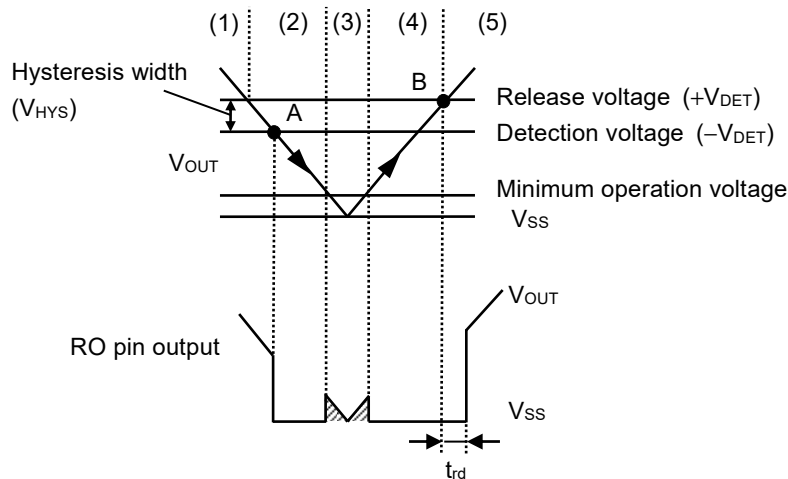

Figure 36 Timing Chart of Detector Block
- (1) When the output voltage (V_{OUT}) of the regulator is release voltage ($+V_{DET}$) of the detector or higher, the Nch transistor (N1 and N2) are turned off and "H" is output to the RO pin. Since the Pch transistor (P1) is turned on, the input voltage to the comparator (C1) is $\frac{R_B \cdot V_{OUT}}{R_A + R_B}$.
- (2) Even if V_{OUT} decreases to $+V_{DET}$ or lower, "H" is output to the RO pin when V_{OUT} is the detection voltage ($-V_{DET}$) or higher. When V_{OUT} decreases to $-V_{DET}$ (point A in **Figure 36**) or lower, N1 which is controlled by C1 is turned on, and C_{DLY} is discharged. At the same time, N2, which is controlled by the delay circuit, is turned on, and "L" is output to the RO pin. At this time, P1 is turned off, and the input voltage to C1 is $\frac{R_B \cdot V_{OUT}}{R_A + R_B + R_C}$.
- (3) If V_{OUT} further decreases to the IC's minimum operation voltage or lower, the RO pin output becomes uncertain. If the RO pin is pulled up, "H" is output.
- (4) When V_{OUT} increases to the IC's minimum operation voltage or higher, "L" is output to the RO pin. Moreover, even if V_{OUT} exceeds $-V_{DET}$, the output is "L" when V_{OUT} is lower than $+V_{DET}$.
- (5) When V_{OUT} increases to $+V_{DET}$ (point B in **Figure 36**) or higher, N1 is turned off and C_{DLY} is charged. When V_{DLY} increases to the threshold voltage (1.25 V typ.), N2, which is controlled by a delay circuit, is turned off and "H" is output to the RO pin.